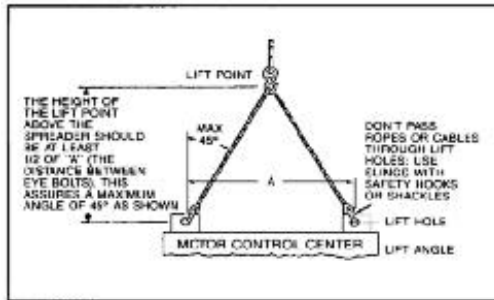

Figure 3 Correct Use Of Lifting Angle
1. See Figure 3 for recommended lifting configuration.